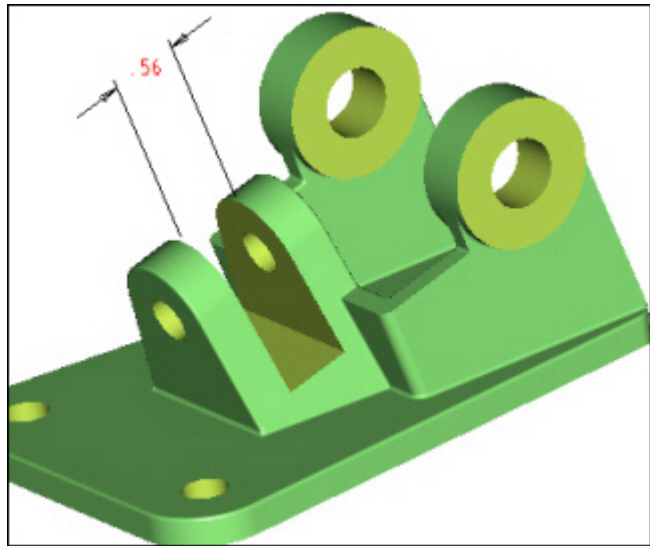

Figure 13 Pick on the .56 dimension and type in a new value
- Modify the dimensional values of part features (Fig. 13)